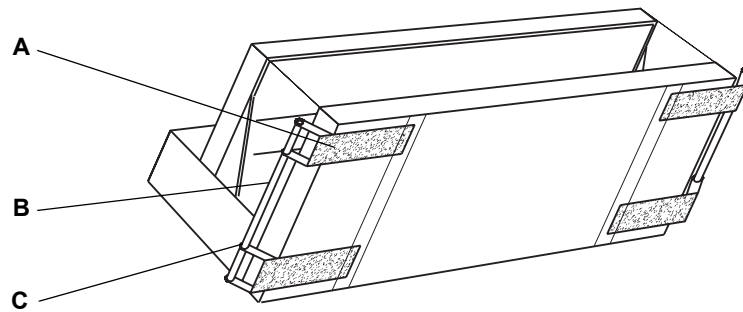

Fig. 4-1 Transport device for Freedom EVO—bottom view
- 1 Check the customer's site for the general site requirements. Refer to section 4.1.1 "Site Requirements", Fig 4-1.